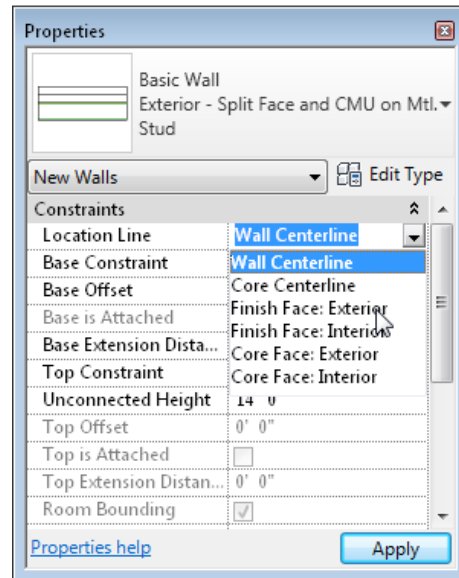

Figure 3-42 Selecting the **Finish Face : Exterior** option for the **Location Line** parameter
2. Click in the value field of the **Location Line** parameter and select the **Finish Face : Exterior** option from the drop-down list displayed, as shown in Figure 3-42. Choose the **Apply** button to accept the specified values.